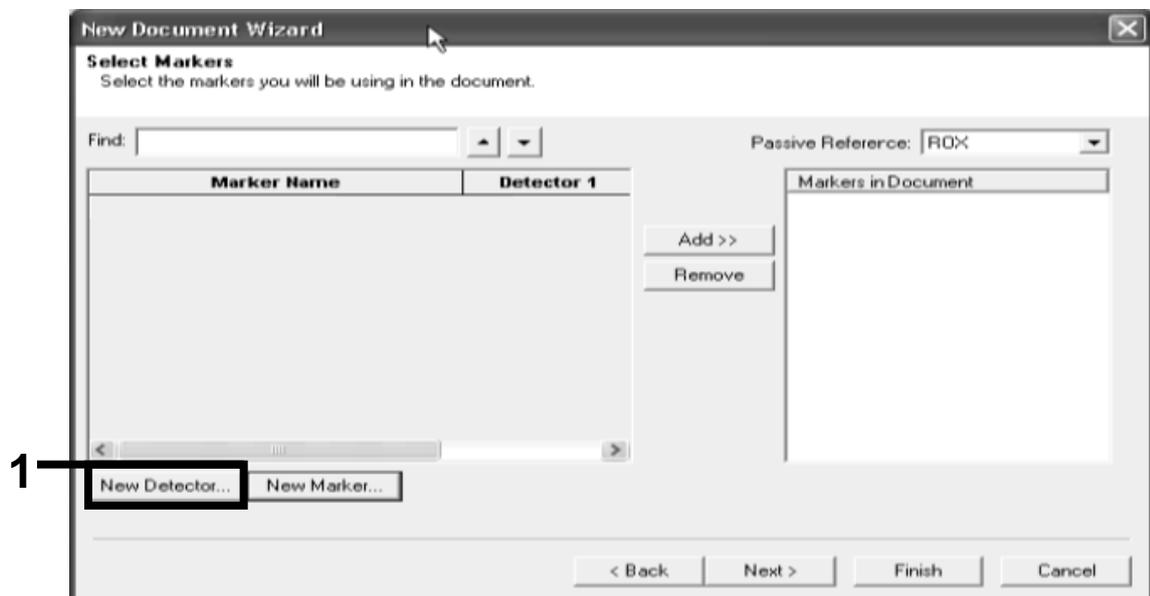

Figure 14. The “Markers in Document” panel does not contain a suitable marker for your application.
15. Create detectors and markers as follows. Click “New Detector” (Figure 14).
18. Click "New Marker" in the "Select Markers" dialog box (Figure 14).